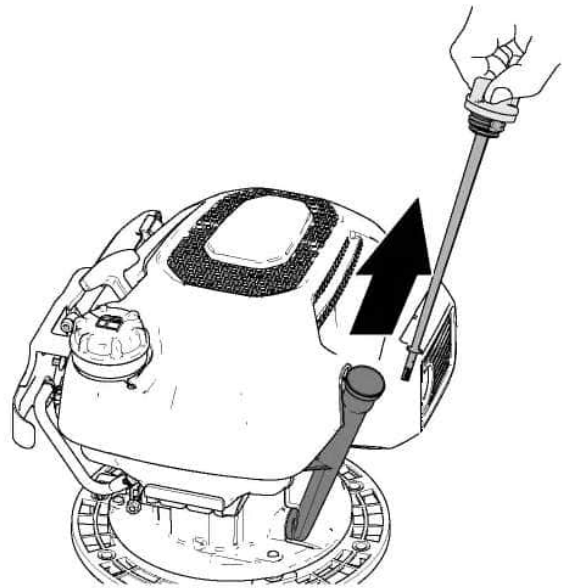

Figure 14
5. Secure the handlebar fitting to the upper handlebar (Figure 14) with the bolt (1/4 x 1-3/4 inches) and locknut (1/4 inch).
2. Remove the dipstick from the oil-filler neck and wipe the dipstick with a clean rag (Figure 14).